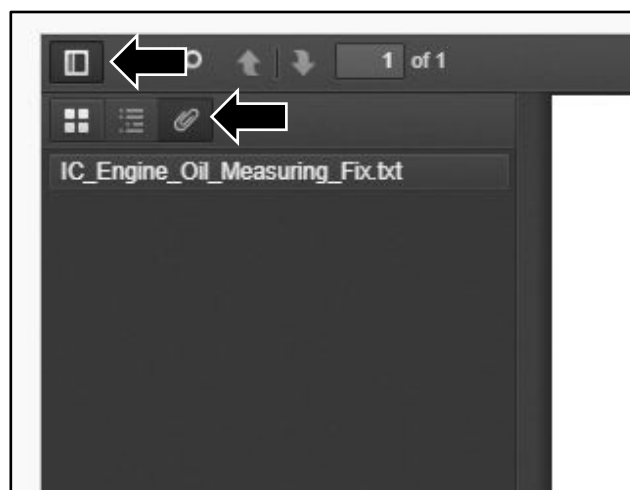

Figure 1
1. In Technical Hub Click the “Toggle Sidebar” button then click the “Show Attachments” button. Download and save the txt file: “IC\_Engine\_Oil\_Measuring\_Fix.txt” (refer to Figure 1).